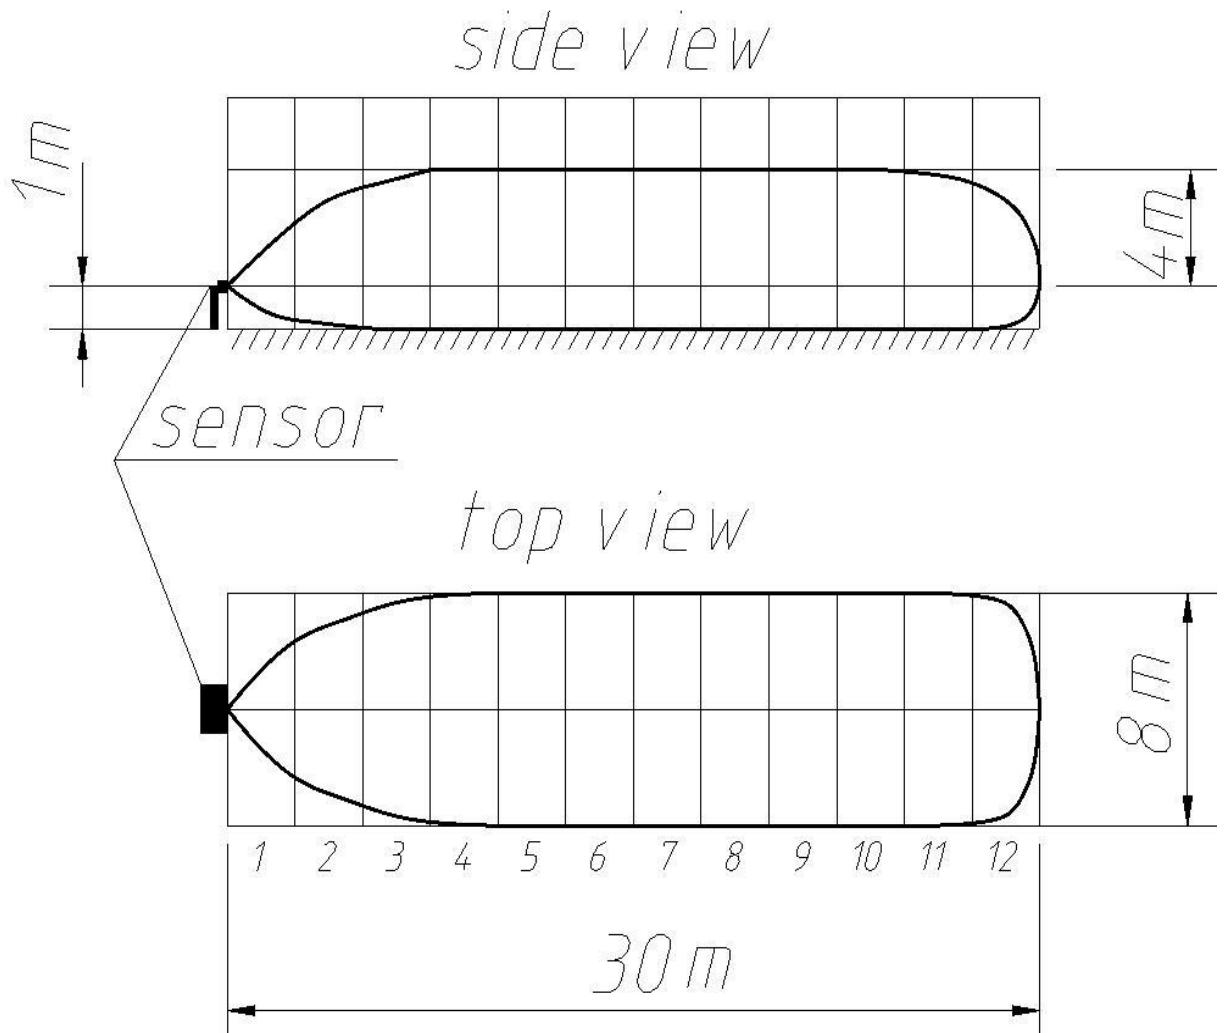

Fig. 8.1 Detection zone parameters of the sensor FM-30
- 8.3.5. Fix the sensor at a horizontal position (relative to the ground) with the bolt 9. The model of the detection zone form and its dimensions are shown in fig. 8.1.